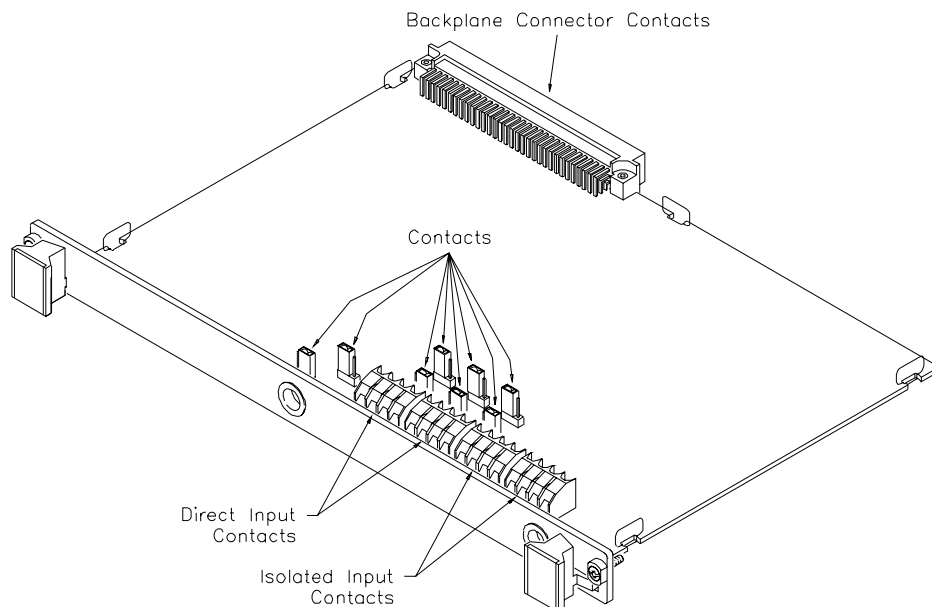

Figure 3-1. Cleaning the Agilent E1332A Counter
Use the following procedure to clean the counter. See Figure 3-1 for contact and cable locations.
3. Clean all contacts as indicated in Figure 3-1.